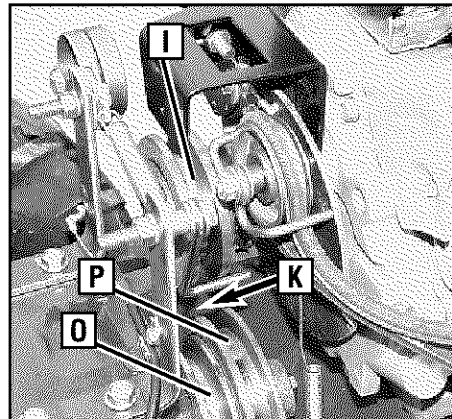
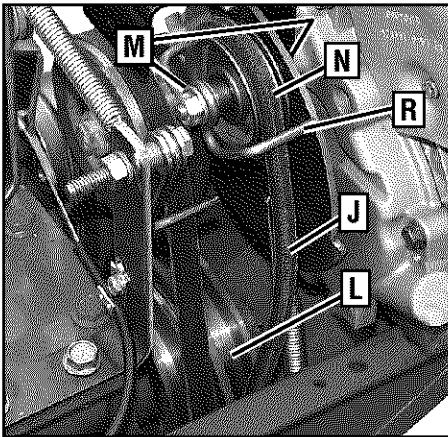

Figure 5-20: Arrow (K) shows insertion point for installing new forward clutch belt.
Figure 5-22: Right-side view.
3. From the front of tiller, insert the forward clutch belt in between the bottom of the engine drive pulley (I) and the top of transmission pulley (K, Figure 5-20).
6. Reinstall the reverse clutch belt. Insert the bottom of the belt into the frame, then pull down on the belt and roll it onto the large, forward-most groove of the transmission pulley (P, Figure 5-20).
The reverse clutch belt (J, Figure 5-22) is driven by the engine drive pulley (I, Figure 5-20). When the Reverse Clutch Control knob is pulled out, it pulls the reverse idler arm and pulley (N) which tightens the belt against the engine drive pulley. This drives the transmission drive pulley (L), resulting in reverse motion.
IMPORTANT: The reverse belt has a "V" shape. When installing the belt, make sure that the widest (flat) side of the belt rides against the reverse idler pulley (N, Figure 5-22) and transmission pulley (L). If needed, the belt can be twisted "inside out" so that the "V" shaped side is on the outside and the widest side is on the inside.
3. Insert the belt down into the front of the transmission housing. Work the top half of the belt under the belt guide (R, Figure 5-22) and onto the reverse idler arm pulley (N).
4. Insert the belt down into the front of the transmission housing. Slip the top half of the belt onto the reverse idler arm pulley (N).
5. Pull the belt downward and loop the bottom half of belt around the front groove of transmission pulley (L, Figure 5-22).
7. (You will need an assistant to help with this step.) Pull the reverse idler pulley (N) up to its highest point and position the belt guide (R) horizontally level as shown in Figure 5-23. Securely tighten the screw and locknut (M, Figure 5-22).
8. Pull back on the Reverse Clutch Control knob and make sure that the reverse clutch belt fully contacts the groove in the engine pulley (I, Figure 5-20). Release the knob and make sure that the belt is not tensioned against the reverse engine pulley (I). The belt may slightly contact the pulley, but not enough to turn the pulley. Adjust the cable for less belt tension if the belt presses to firmly against the reverse engine pulley. See *Checking and Adjusting Reverse Belt Tension*.